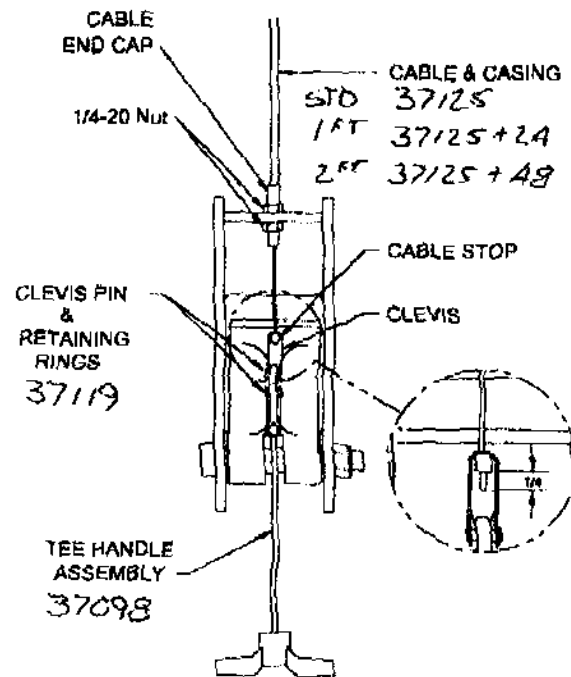

Fig 13
27. Attach the tee handle assembly to the bottom hole of the power side locking pawl using the clevis pin and retaining rings. The complete assembly of the power side should be as seen in Fig 13.